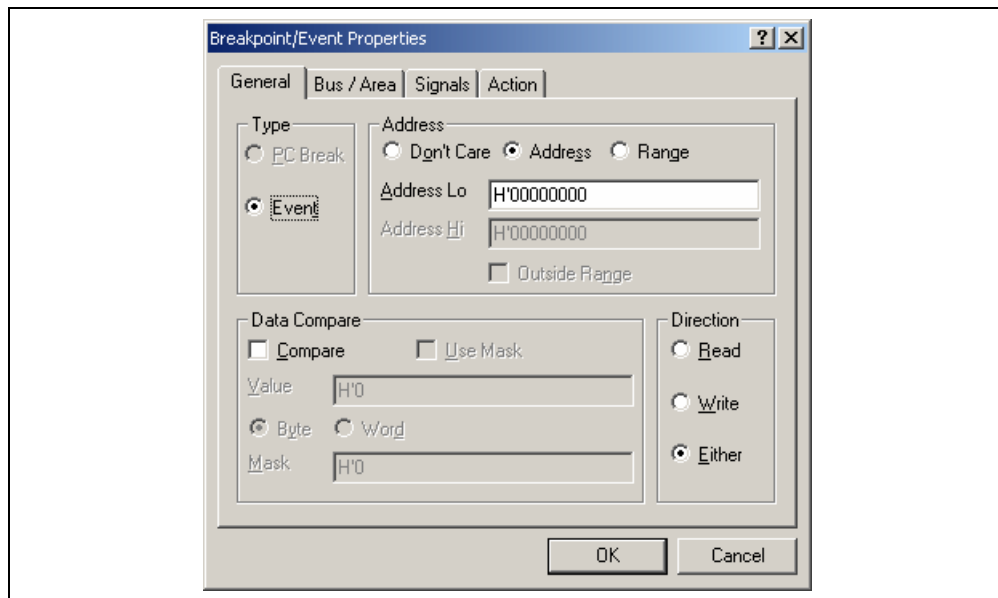

Figure 6.42 [Breakpoint/Event Properties] Dialog Box
- (2) Register the address range for trace acquisition as an event condition. Click the [Add...] button in the [Trace Events] group box on the [General] page to display the [Breakpoint/Event Properties] dialog box (see figure 6.42, [Breakpoint/Event Properties] dialog box).
- (3) Click the [Range] radio button in the [Address] group box on the [General] page of the [Breakpoint/Event Properties] dialog box. Use the [Locals] window to refer to the address on the line where variable `a`, which is defined within the `tutorial` function, is allocated (`H'00FFEF80` in this example) and enter this address in the [Address Lo] edit box. Then enter an address, which is `H'27` added to that entered in the [Address Lo] edit box (`H'00FFFA7` in this example), in the [Address Hi] edit box. This procedure sets the memory range for variable `a` of the `tutorial` function.
- (4) Click the [Write] radio button in the [Direction] group box to set a write cycle for the specified range. This completes the setting of a memory range. Click the [OK] button to close the [Breakpoint/Event Properties] dialog box.